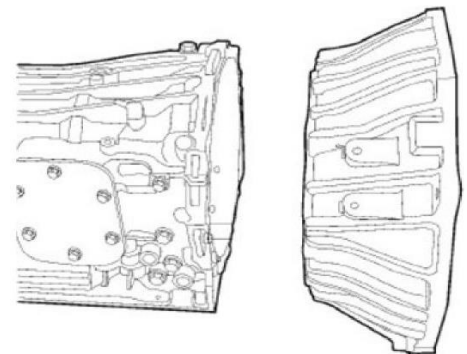

Fig. 4
- 33. Remove the bolts securing the torque converter housing to the transmission case and remove the housing (Fig. 4).